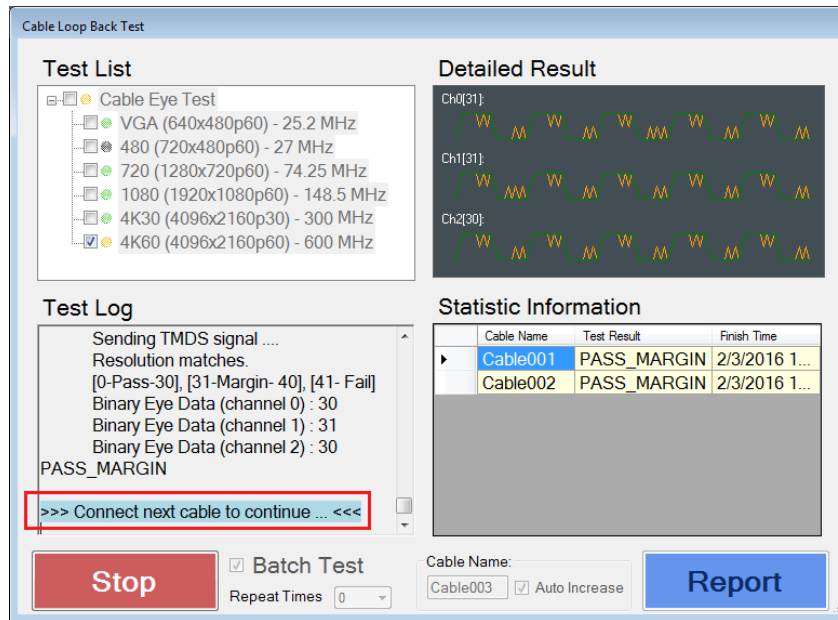

Figure 4.15. Cable Loop Test in the Batch Mode
- Check the Batch Test checkbox (Figure 4.15).
- Select item(s) in the Test List area (Figure 4.15).
- Follow the instructions in the Test Log area to run the Cable Loop-back test (Figure 4.15).